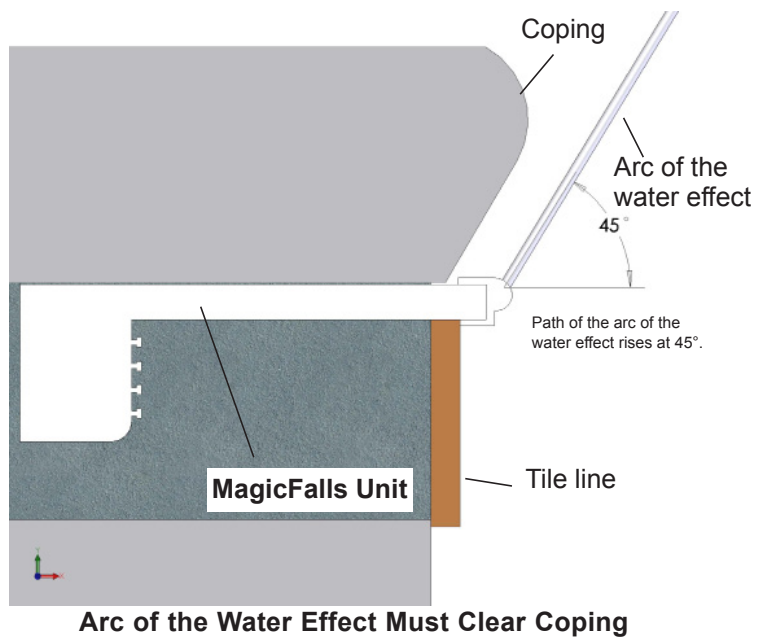

Figure 3
3. When installing an arc effect, like rain or sheet, make sure the water effect will clear the overhanging coping (Figure 3). The arc of the water effect rises out of the waterfall at 45°.